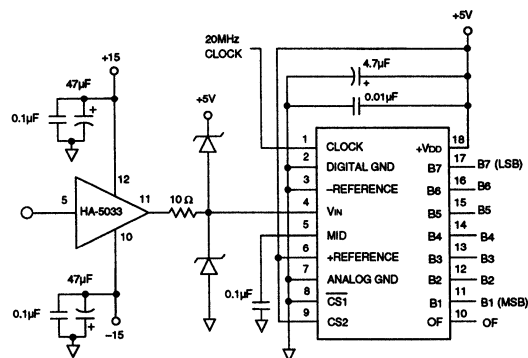

Figure 2. Typical Connections for Using the ADC-207
- ① At full power input and chip selects enabled.
- ② At 4MHz input and 20MHz clock.
- ③ For 10-step, 40 IRE NTSC ramp test.
- ④ Adjustable using reference ladder midpoint tap. See ADC-207 Operation.
1. Input Buffer Amplifier – Since the ADC-207 has a switched capacitor type input, the input impedance of the 207 is dependent on the clock frequency. At relatively slow conversion rates, a general purpose type input buffer can be used; at high conversion rates DATEL recommends either the HA-5033 or Elantec 2003. See Figure 2 for typical connections.